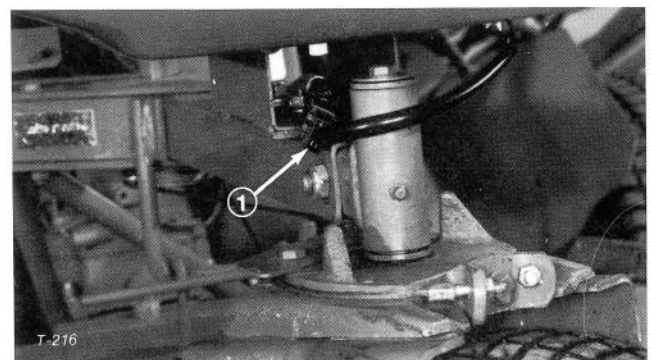

Figure 5
3. Connect switch cable to interlock cable (Fig. 5).